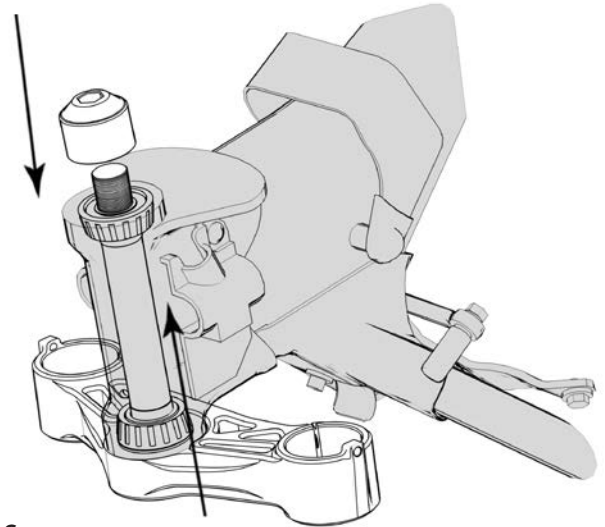

Fig. 6
8. Thread on Yoke Nut until there is good bearing feel. **(See fig. 6)**